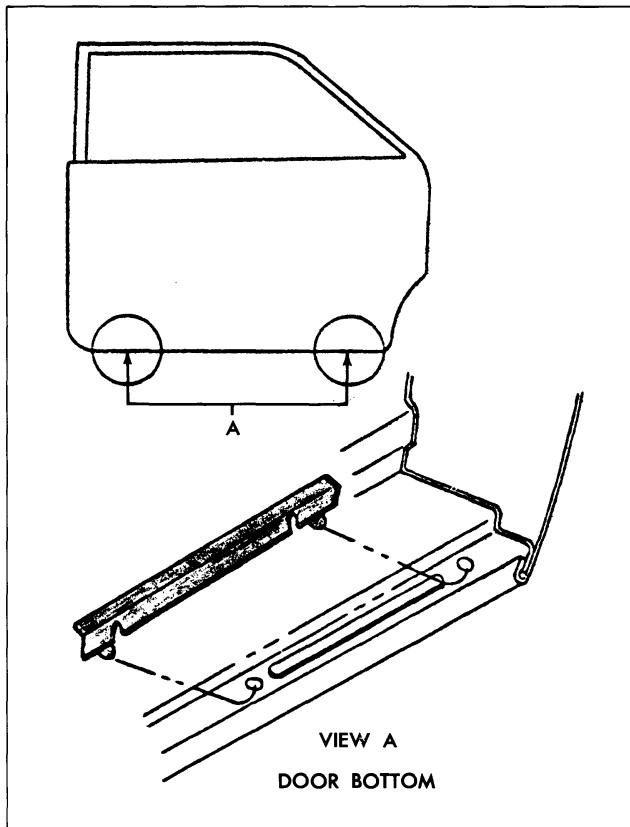

Fig. 3-1 Door Bottom Drain Hole Sealing Strip
1. With a putty knife, or other suitable flat-bladed tool, carefully pry out retaining plugs (Fig. 3-1).